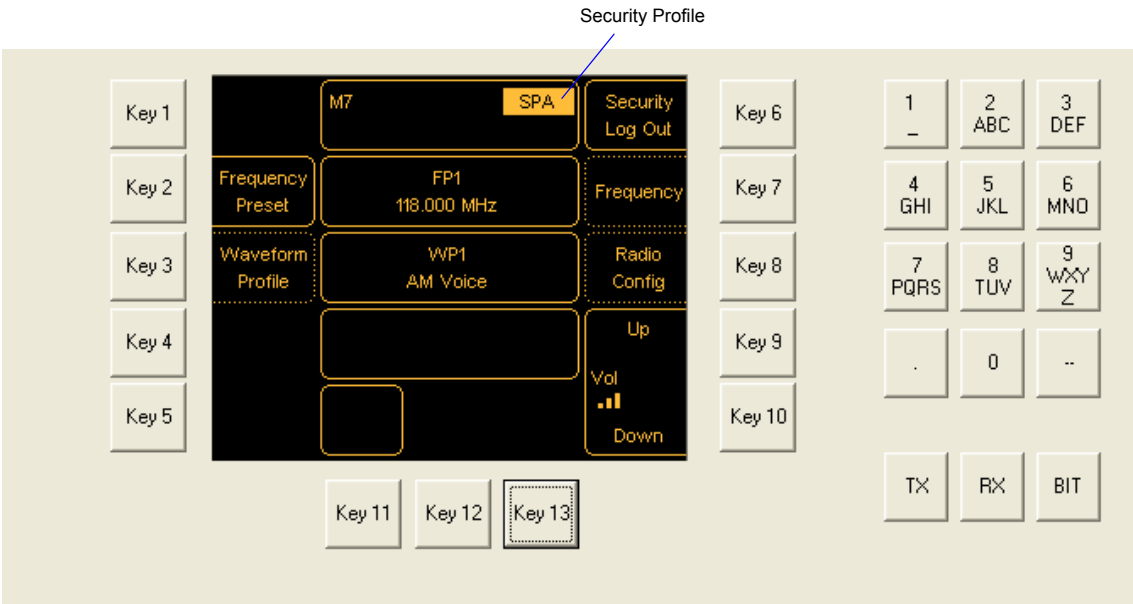

Fig 3-13 Home Screen Showing Permitted Actions
- (4) When the correct PIN is entered, you are returned to the Home screen. The screen indicates your security profile as shown in Fig 3-13 and the actions you may perform. In the example shown in Fig 3-13, you may recall a frequency preset, but cannot edit the frequency, waveform profile, or radio configuration (they are 'greyed out').